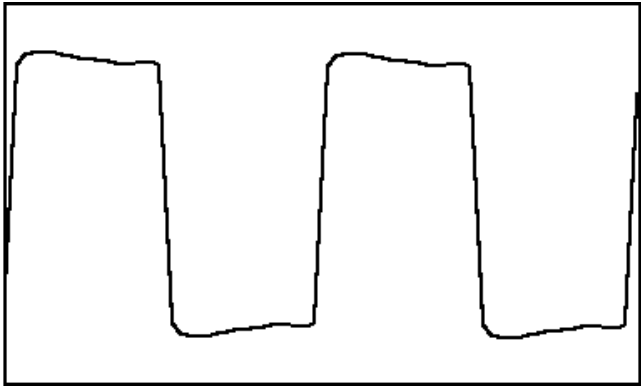

Figure 8 - Low Speed Data Waveform
Leave the low speed data *on* while setting the transmit (TX) deviation. The low speed data and transmitter deviation are independent of one another and are summed together for total output deviation. Figure 8 shows a typical waveform for low speed data using the Tektronix Digital Storage Scope.